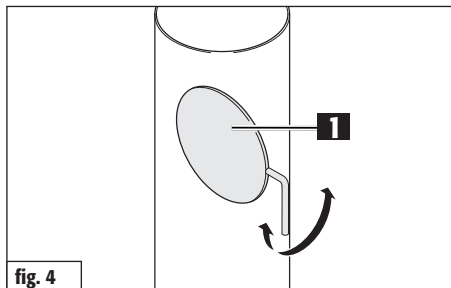

fig. 4
The Como has to be connected to a suitable chimney with a minimum effective chimney height of 4.50 m. It can be connected to a chimney to which other fireplaces are already connected. The chimney cross section should correspond to the flue pipe cross section. If the effective chimney height is too low and/or the chimney cross section is too large or too small, the draught capability of your stove can be impaired. The Como stove requires a 11 Pa output pressure (chimney draft). At higher output pressures, the stove emissions increase, which puts a high load on the stove and can lead to damage. The Como stove has a maximum permissible output pressure of 35 Pa. To limit the output pressure, a butterfly valve (Fig. 4) or output pressure limiter can be used.
The butterfly valve (Fig. 4/1) is an optional control element. It is fitted in the flue pipe and used to regulate the flue gas flow, and can thus slow down the burning-off process. When the handle's position is diagonal to the flue pipe, the flue gas flow rate is turned to minimum. We strongly recommend installing a butterfly valve to reduce the output pressure. Please comply with the country-specific legal regulations.
**Make sure butterfly valve (Fig. 4) is open before opening the fire box door during the burning phase.**